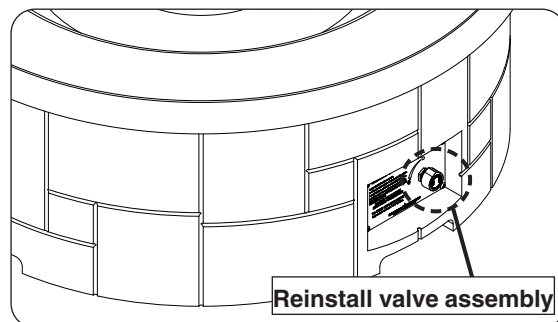

Fig. 30-3 Reinstall valve assembly
1. Reinstall the valve assembly. Tighten the nut attached to the valve. Reinstall the control knob. See Fig. 30-3.